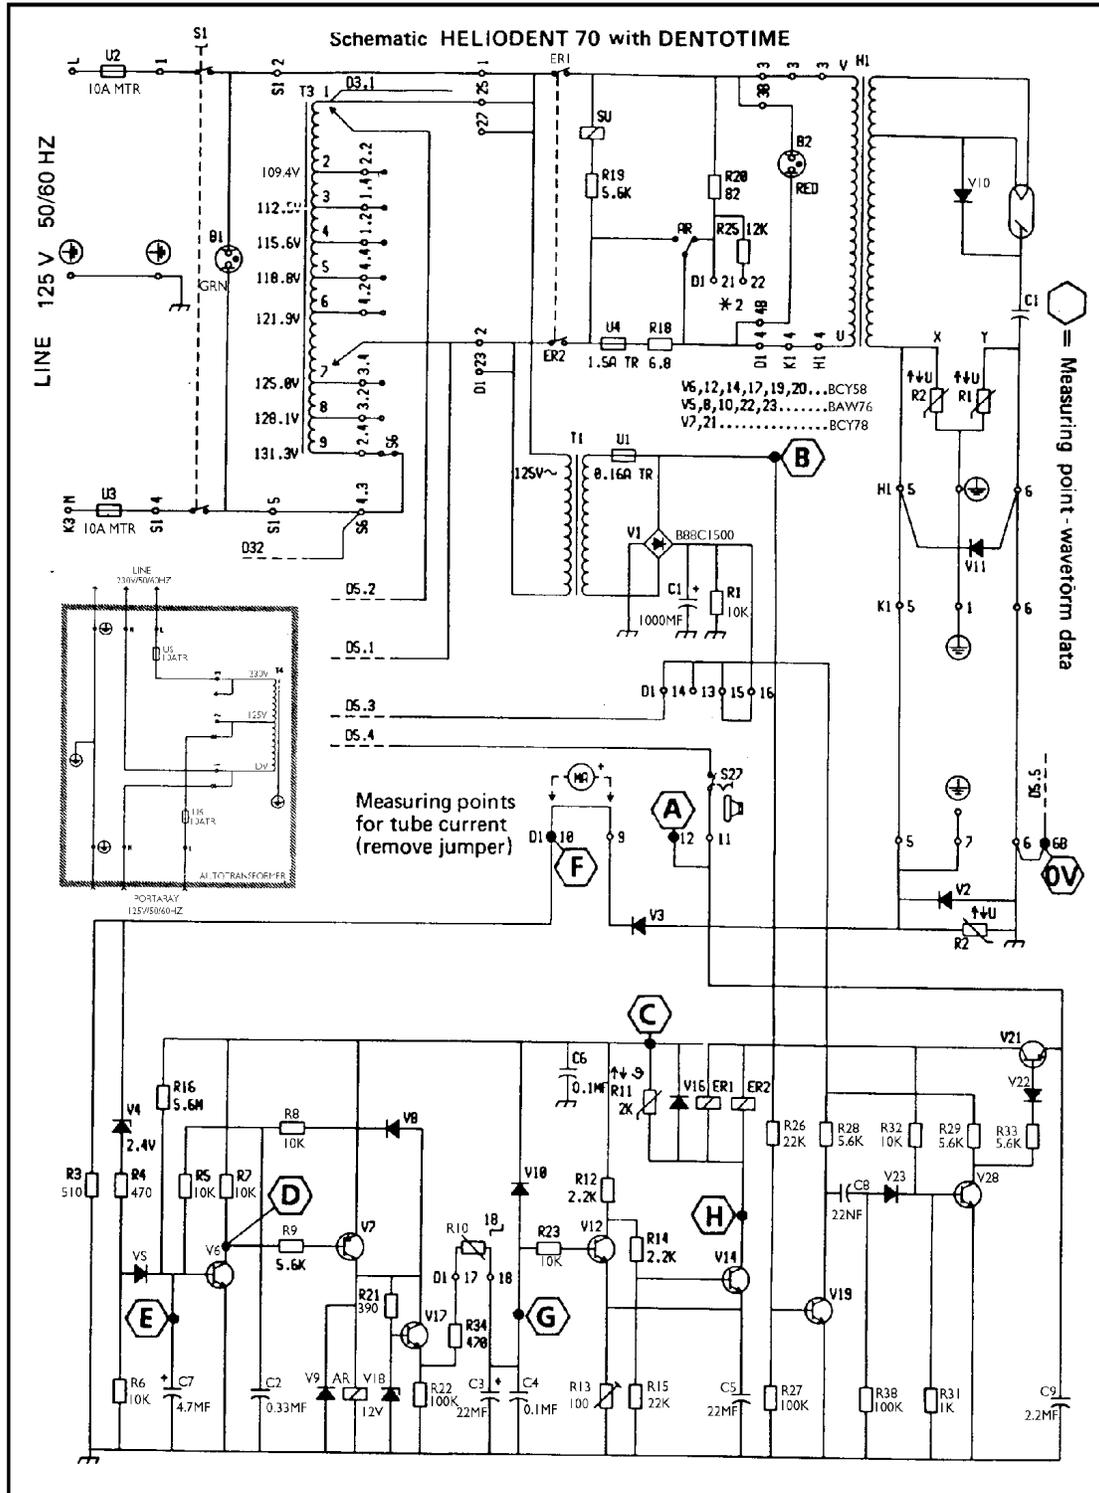

Figure 3-22
f. Adjust the exposure time, as necessary, by turning R13 on PC-board D1 until the proper pulse count is obtained. (See Figure 3-22 on page 3-54.)
- (1) Turn R13 clockwise to increase exposure time.
- (2) Turn R13 counterclockwise to decrease exposure time.